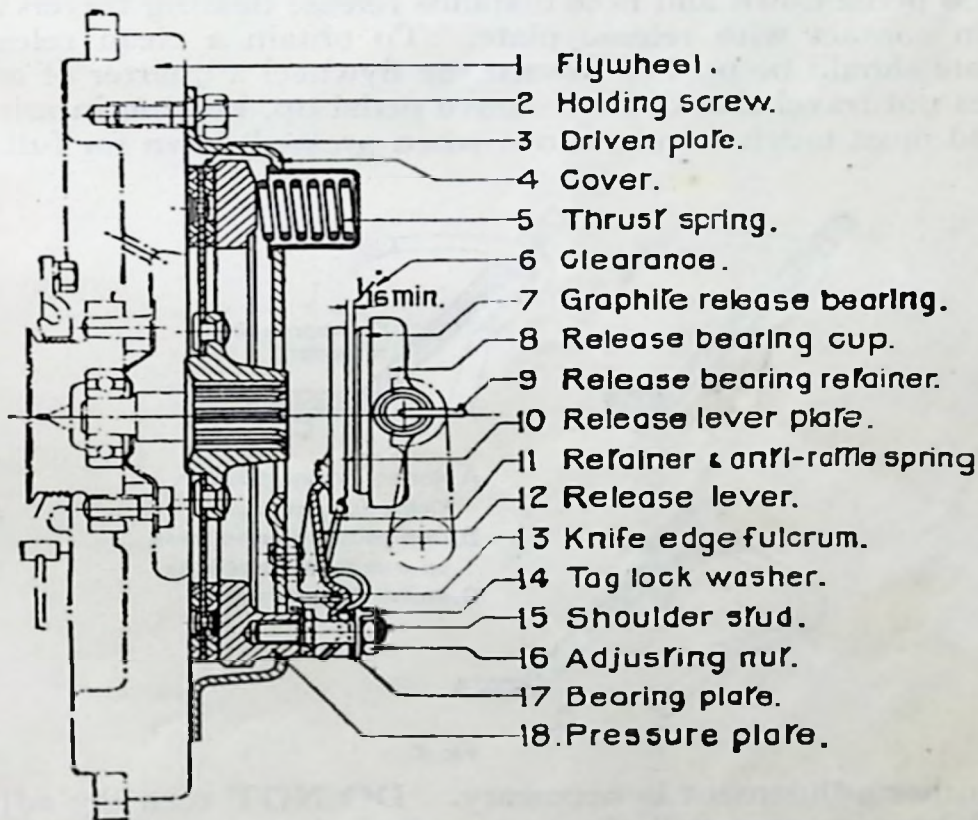

Fig. 1.
When this adjustment has been made a minimum clearance of one-sixteenth of an inch (6) (Fig. 1) between Graphite Release Bearing and Release Lever Plate should be obtained.
To remove clutch from flywheel (1) (Fig. 1) it is necessary to remove the holding screws (2) (Fig. 1). Loosen each of holding screws a turn or two at a time until the spring pressure is relieved (this should be carefully done to prevent springing the flanged edge of cover). The screws can then be removed and the complete clutch lifted off the flywheel, all parts except driven plate (3) (Fig. 1) being assembled to the cover.